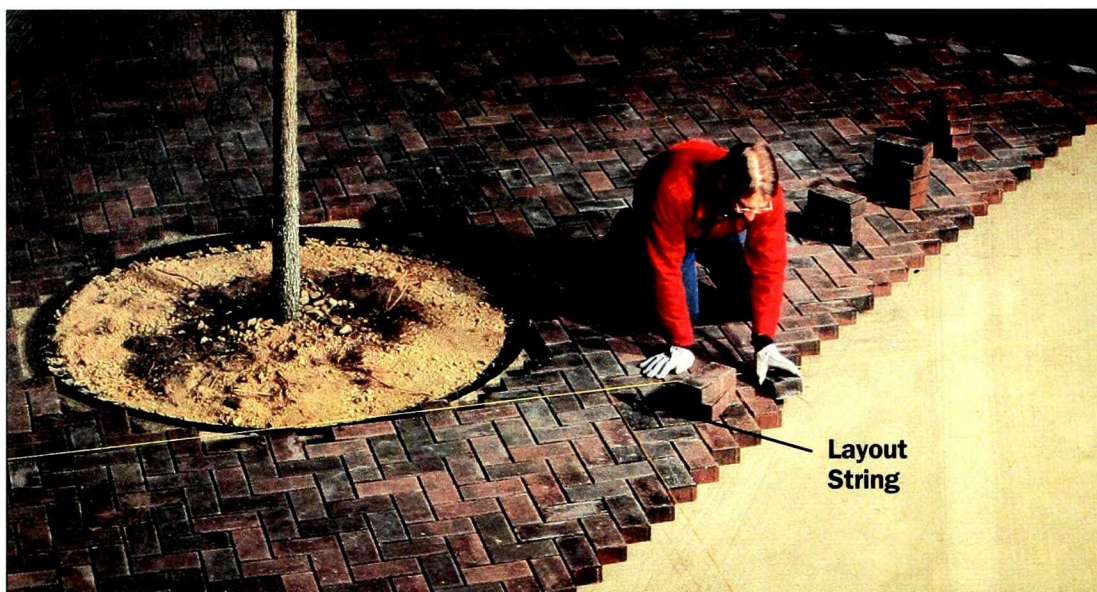

Figure 10: Continue laying pavers using a layout string to keep them in line as you work. Put a gap between pavers or tap them tighter to stay in line.
- Take down the guide strings you used to determine height and slope and put up new stakes and strings to mark the lines for the pattern of your pavers (Figure 10).
- Measure to your string every few rows as you work to ensure you're staying on track (Figure 10). You can leave a slight gap between pavers or tap them tighter together with a rubber mallet.